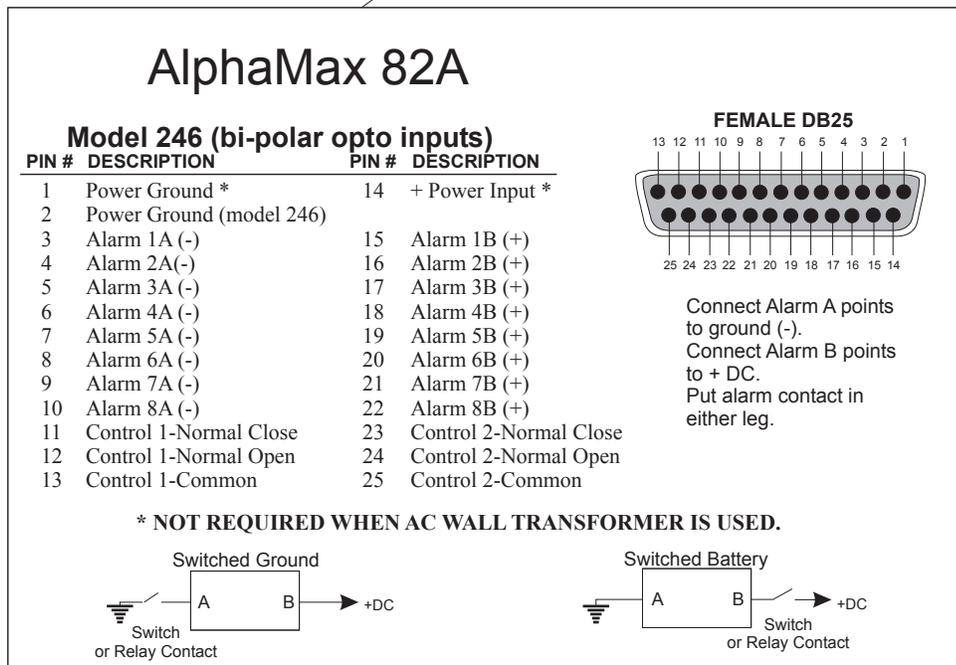

Fig. 4 - Connect alarm and control points at the DB25 connector on the AlphaMax 82A.
5. Connect alarm points and controls to J1 on the AlphaMax. A DB25 connector and hood are supplied in the AlphaMax cable kit. Refer to Fig 4.
Example: (see Fig. 4) Switched ground: To operate alarm point 5, J1-pin 7 (Alarm 5A) connects to one terminal of a (normally-open) switch or relay contact. The other terminal of the switch or relay contact is connected to negative ground. J1-pin 19 (Alarm 5B) connects to positive battery. When the switch or relay contact closes, current flows in the circuit and an alarm is sensed.